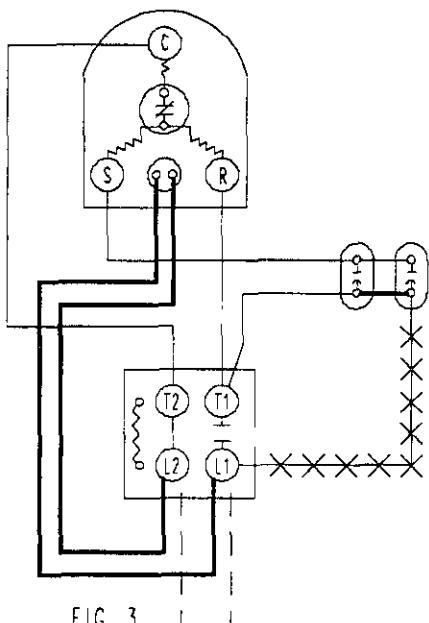

FIG. 3
4. Change capacitor and rewire. (See Figure 3 on page 2.)